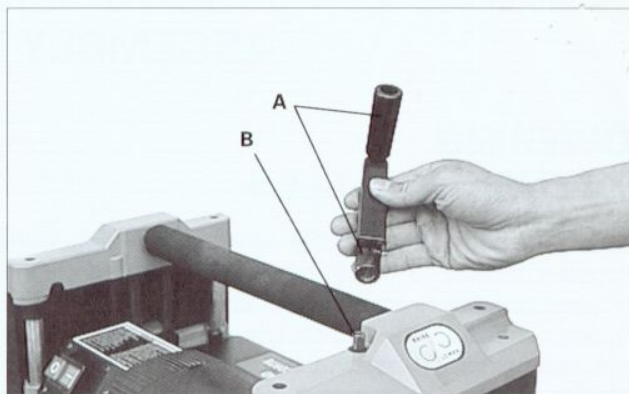

Fig.7
1. Assemble the cutterhead raising and lowering handle(A) Fig.7, to shaft(B), making certain flat on shaft is engaged with flat in handle.